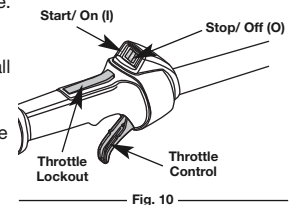

Fig. 10
NOTE: There is no need to turn the unit on. The On/Off Control is in the ON (I) position at all times (Fig. 10).